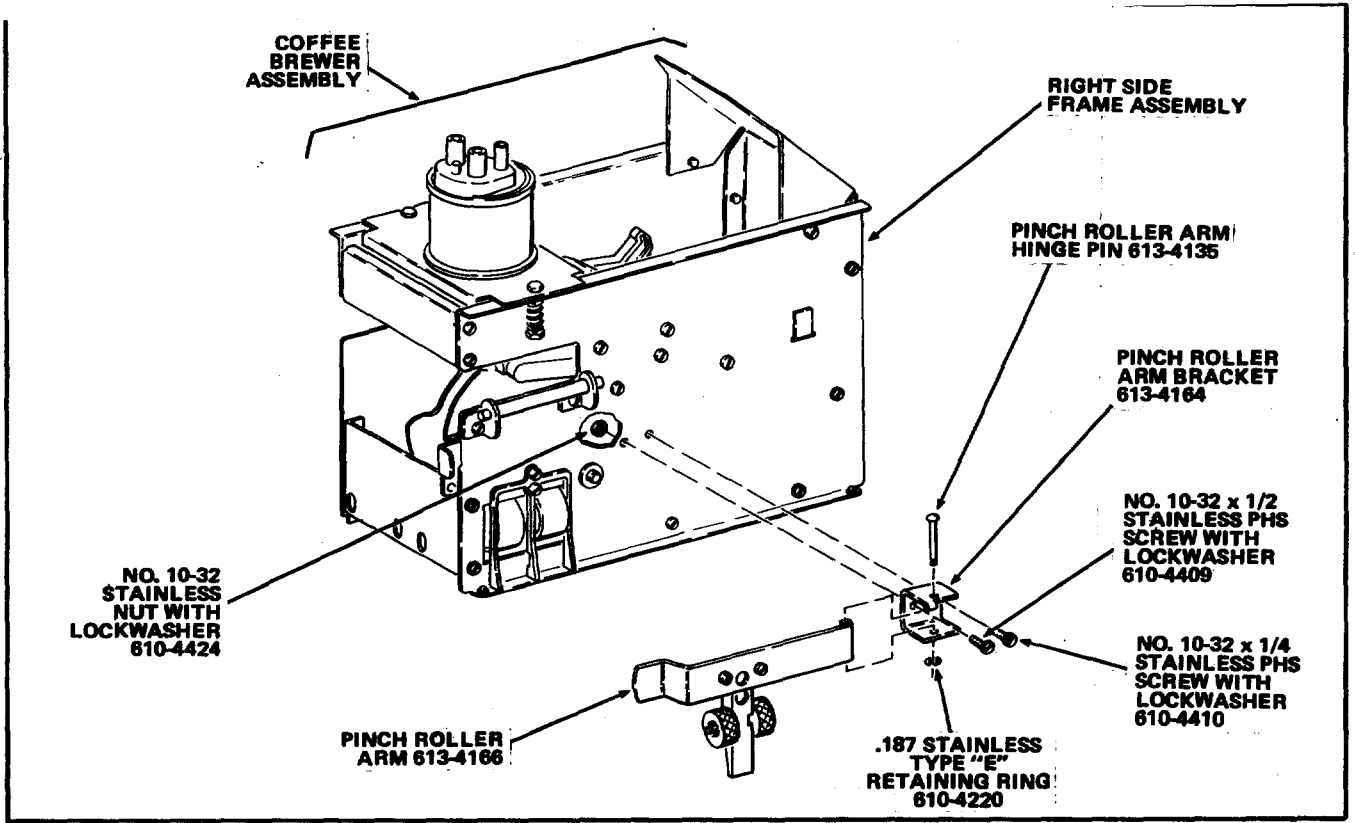

FIGURE 5
1. Attach the Pinch Roller Arm Bracket, Part Number 613-4164, included in the Kit, to the Right Side Frame Assembly of the Coffee Brewer Assembly using a No.10-32 x 1/4 Stainless Pan Head Screw with Lockwasher, Part Number 610-4410, a No.10-32 x 1/2 Stainless Pan Head Screw with Lockwasher, Part Number 610-4409, and a No.10-32 Stainless Nut with Lockwasher, Part Number 610-4424, all included in the Kit. See Figure 5.
2. Attach the Pinch Roller Arm, Part Number 613-4166, included in Kit 613-4169, to the Pinch Roller Arm Bracket with a Pinch Roller Arm Hinge Pin, Part Number 613-4135, included in Kit 613-4169, and a .187 Stainless Type "E" Retaining Ring, Part Number 610-4220, included in both Kits. See Figure 5.